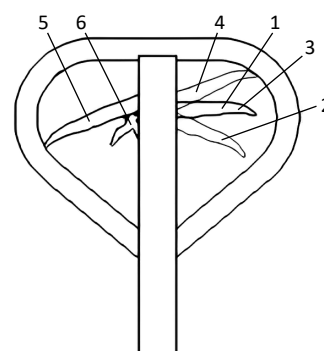
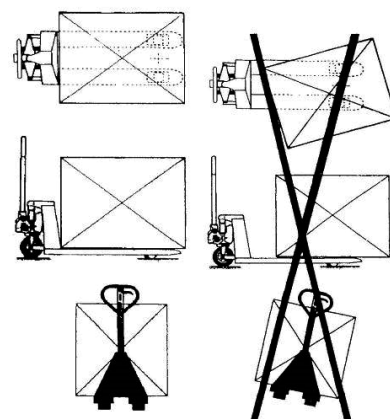

Fig. 5
Fig. 6
Note: See figure 5.
Note: See figure 5 (previous page) and figure 6.
- In order to lift loads, set the lever (1) to the lifting position and rock the handle. (Fig. 5)
- In order to move the unit, set the lever (1) to the free position. When the lever is in the free position and the handle is rocked, the forks will not be lifted or lowered.
- In order to lower loads, set the lever (1) to the lowering position. The forks will drop automatically.
- When the lever (5) is placed below, the unit will be set in a state of free movement.
- When the lever (5) is placed above, the unit will brake.
- The lever (6) is used for releasing the brake.